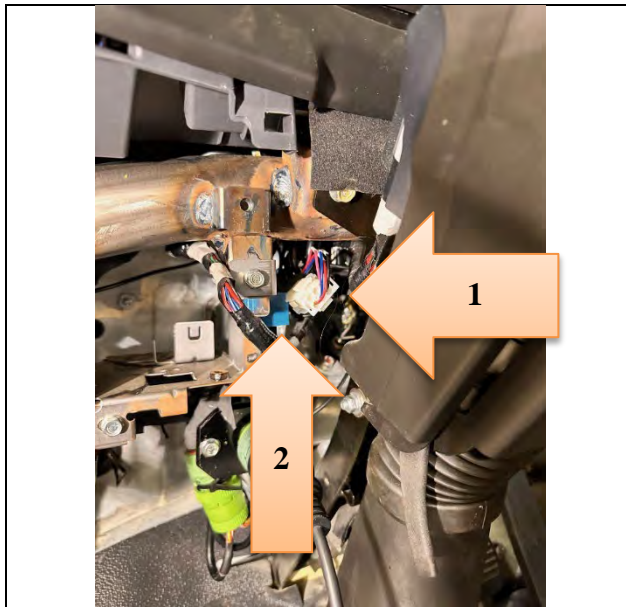

Figure 5
6. Disconnect connector MH-2 located near and slightly above the B-216 Flasher Module. (See Figure 5.)